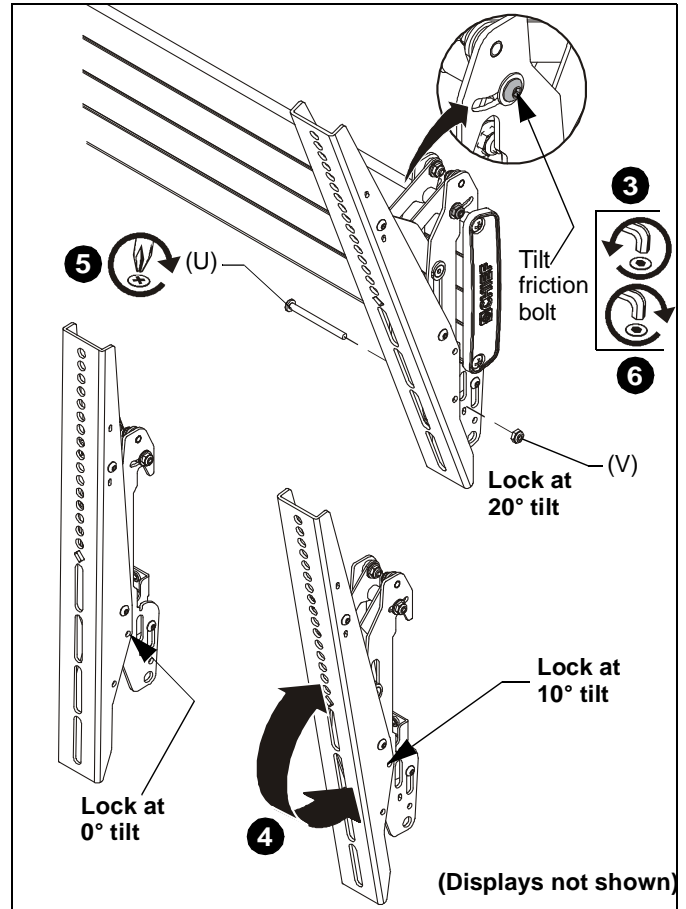

Figure 11
- If necessary, loosen button head tilt friction bolt (located on side of interface bracket). (See Figure 11)
- Adjust tilt as required. (See Figure 11)
- The tilt may be locked at 0°, 10° and 20° using one 10-24 x 2-1/4" Phillips head screw (U) and one 10-24 lock nut (V) per interface bracket. (See Figure 11)
- Tighten button head tilt friction bolt as necessary. (See Figure 11)